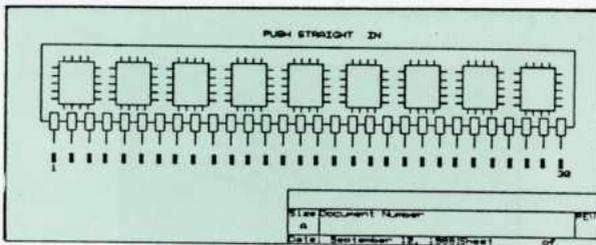

Fig4-1
2. Align the pins with the individual pin sockets on the board so that all the pins have a matching socket and none are left over (Fig4-1). Keep the module in a vertical position to avoid bending the pins.
3. Be sure that PIN 1 of SIP Modules matches PIN 1 of the system board (see Fig.4-1). If you are not confident about the location of PIN 1 of the SIP Module, please contact your dealer.